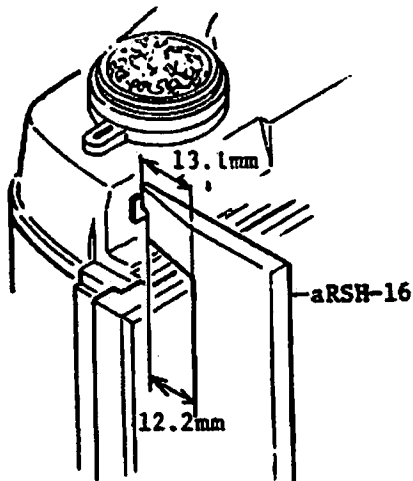

Fig. 142
- 3) Use Gauge for double exposure prevention device (aRSH-16) for confirmation, Preventive lever shall be within the range of 12.2 to 13.1mm including the play in the direction of to and for as shown in Fig. 142.